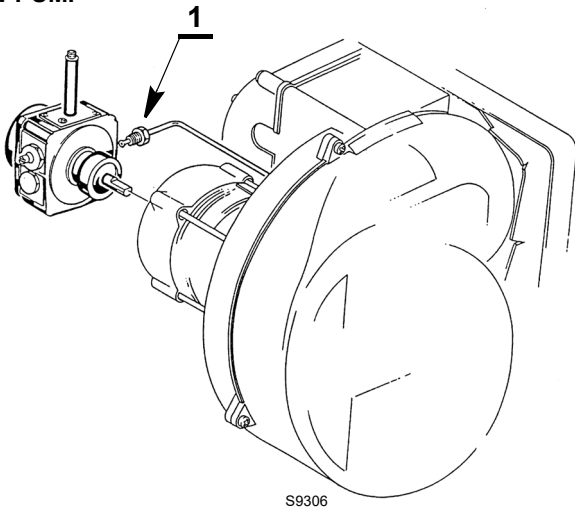

Fig. 7
- Tighten the coupling 1) (Fig. 7) with a tightening torque of $15 \text{ Nm} \pm 1 \text{ Nm}$.